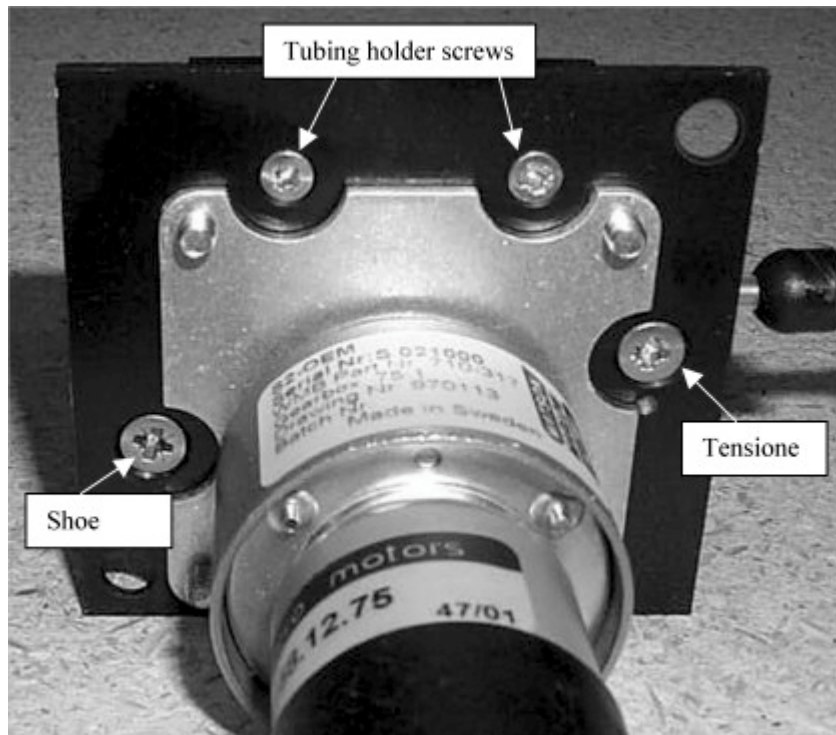

Figure 1-20 Removing shoe, tensioner, and tubing holder.
23. Remove tubing holder, shoe, and tension nut by screws shown in figure 1-20. Keeping screws with parts for installation in chassis later.